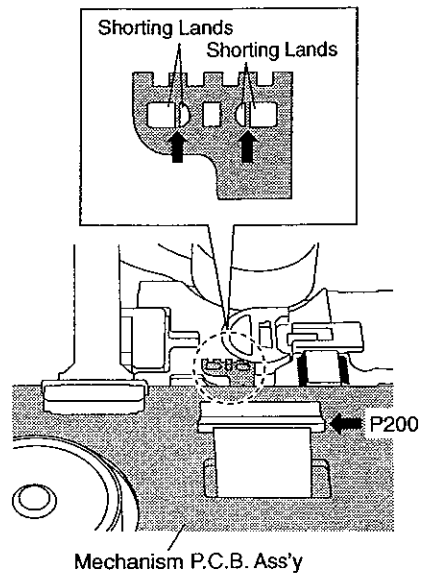

Fig. 2.7.1 Bottom View
- (1) Remove the Main P.C.B. Ass'y referring to item 2.5.
- (2) Short the laser diode shorting lands (2 places) on the flexible cable of the Pickup Block. See Fig. 2.7.1.